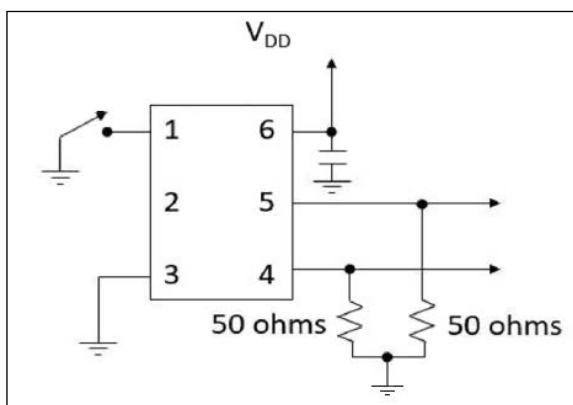

FIGURE 1-4: HCSL Test Circuit.
- 3:** Figure 1-4 defines the test circuit and Figure 1-2 defines these parameters.